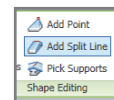

FIGURE 3.9 Adding split lines
6. Let's suppose that this entire floor is at the correct level, except for one small portion that needs to be slightly depressed in order to accommodate a loading area. Define the upper and lower boundaries of this depressed area by selecting the Add Split Line option on the Shape Editing panel. Add the lines as shown in Figure 3.9. Dimensions are shown for reference.